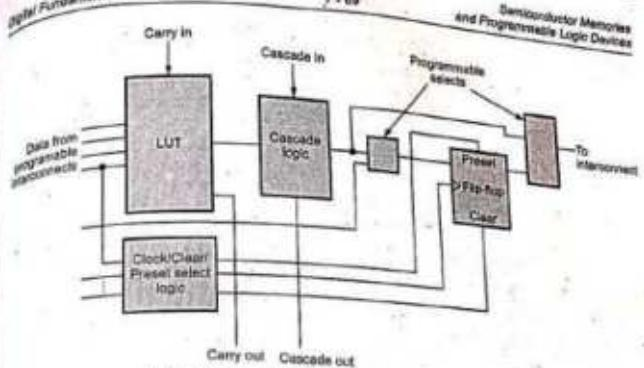

Fig. 7.17.4 A simplified typical FPGA logic slice
- A simplified diagram of a typical FPGA logic element is shown in Fig. 7.17.4. It contains an LUT, associated logic, and a flip-flop.